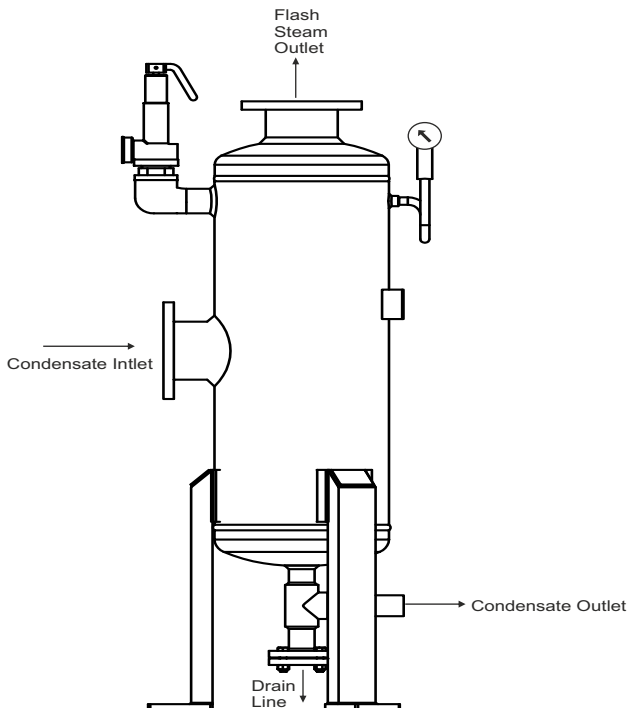

Figure 8 : Flushing procedure of Forbes Marshall flash vessel
6.1 Flushing Procedure in the presence of a Forbes Marshall Flash Vessel (Refer Fig. 8)